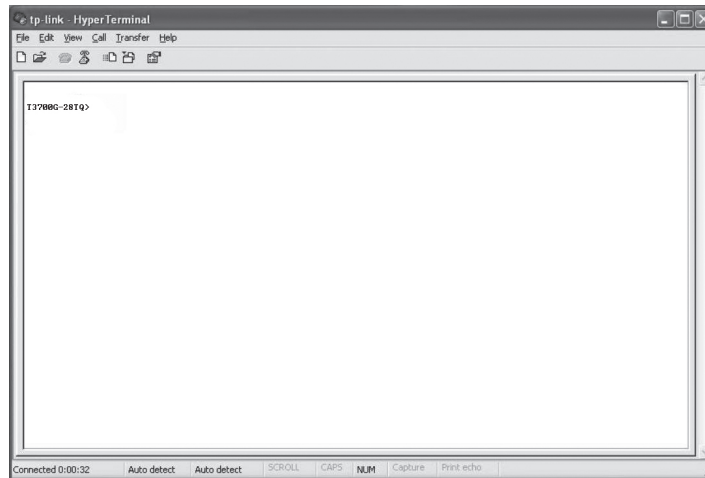

Figure 6-8 Log in the switch
6. Type in the User name and Password in the Hyper Terminal window, the factory default value for both of them is admin. The DOS prompt "T3700G-28TQ>" will appear after pressing the Enter button as Figure 6-8 shown. It indicates that you can use the CLI now.